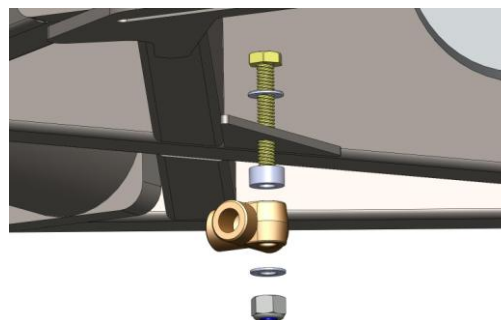

Figure 6
- b. Install t-block with supplied 1/4" bolt, spacer, washer, and nylock nut. Torque nut to 8 lb. ft. Figure 6